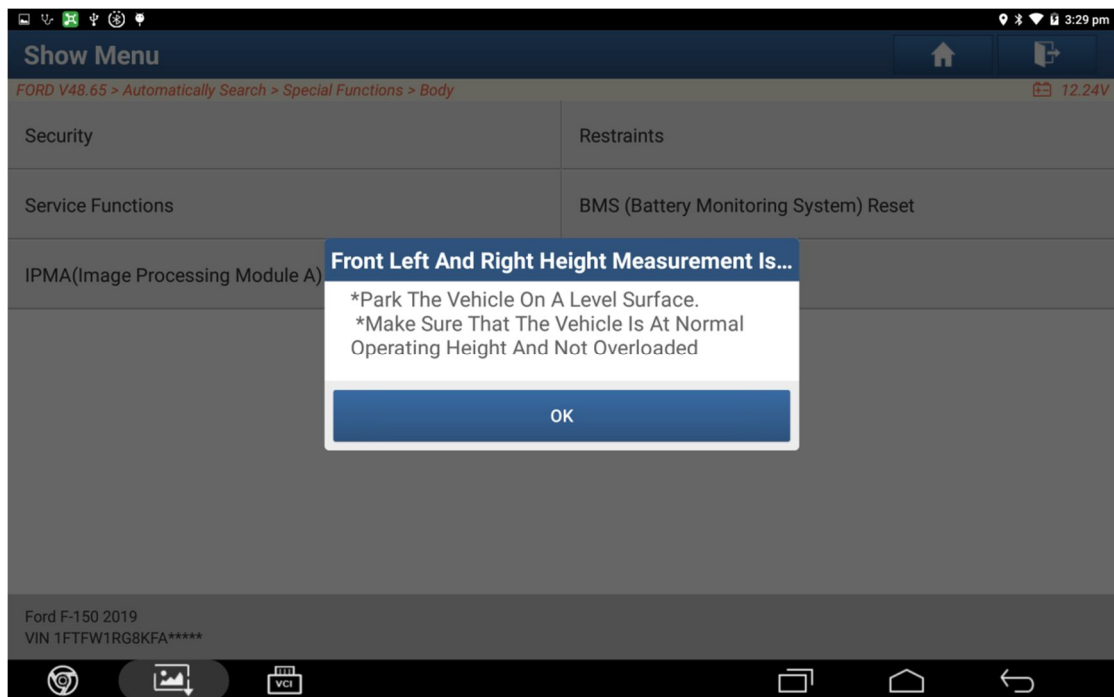

Figure 11
10. Prompt to measure the height of front left wheel and front right wheel and wheel arches (Figure 11).